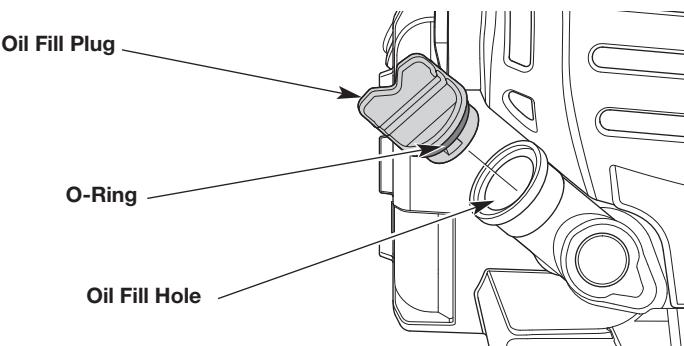

Fig. 6
4. Unscrew the oil fill plug (Fig. 6).
5. Pour the entire bottle into the oil fill hole (Fig. 6). **DO NOT** overfill. Refer to *Checking the Oil Level*.
NOTE: Make sure the O-ring is in place on the oil fill plug (Fig. 6).